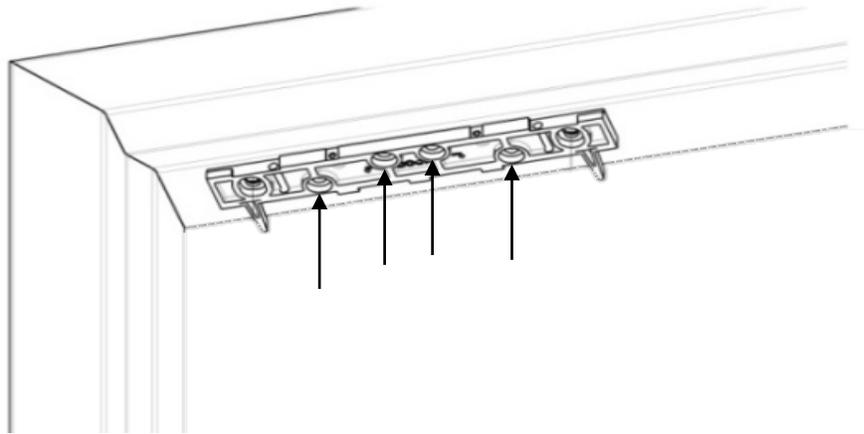

Figure 26. Installing Final Mounting Screws
6. Drill pilot holes as necessary then install and TIGHTEN the four (4) final mounting screws (see Figure 26, "Installing Final Mounting Screws"). For METAL DOORS drill 3/16" and use #12 X 1-1/2" Screws. For WOOD DOORS drill 7/32" and use #14 X 3" screws.